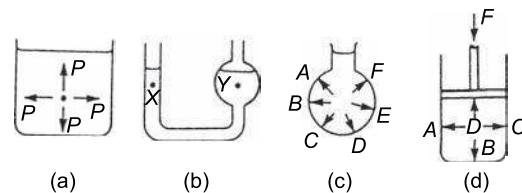

Figure 22.1
- (a) The pressure at a given depth in a fluid is equal in all directions; see Figure 22.1(a).
- (b) The pressure at a given depth in a fluid is independent of the shape of the container in which the fluid is held. In Figure 22.1(b), the pressure at X is the same as the pressure at Y.
- (c) Pressure acts at right angles to the surface containing the fluid. In Figure 22.1(c), the pressures
- (d) When a pressure is applied to a fluid, this pressure is transmitted equally in all directions. In Figure 22.1(d), if the mass of the fluid is neglected, the pressures at points  $A$  to  $D$  are all the same.